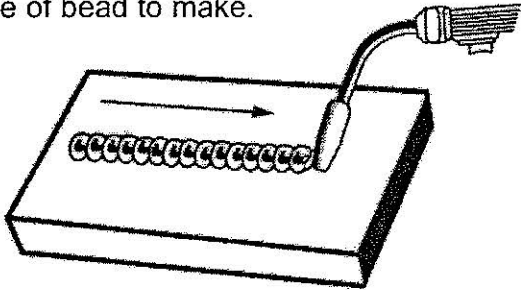

Figure 12. Stringer Bead
1. The **STRINGER BEAD** (Figure 12) is formed by traveling with the gun in a straight line while keeping the wire and nozzle centered over the weld joint. This is the easiest type of bead to make.